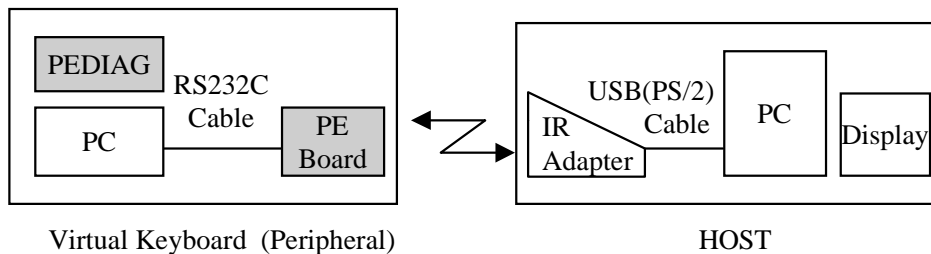

Figure 1 Evaluation System
Figure 1 shows the evaluation system structure using the Sharp PEK. This system contains one Host device and one development keyboard (Peripheral device). The Sharp PEK includes only the peripheral development tools. A development keyboard will be simulated with a Peripheral Engine (PE) Board, RS232C Board, PEDIAG software, Notebook PC, and an RS-232C serial cable. Operating the PEDIAG software, a notebook PC will control the PE Printed Wiring Board (PWB) and will perform as a development keyboard. Keystrokes on the notebook PC will be received as inputs and will be transmitted as infrared signals from the PE Board. The transmitted infrared signal will be received by an IR adapter which is connected to the Host PC. There are two kinds of adapters depending on the interface, for PS/2 or USB, each of which should be connected to the PC by its specific cable.